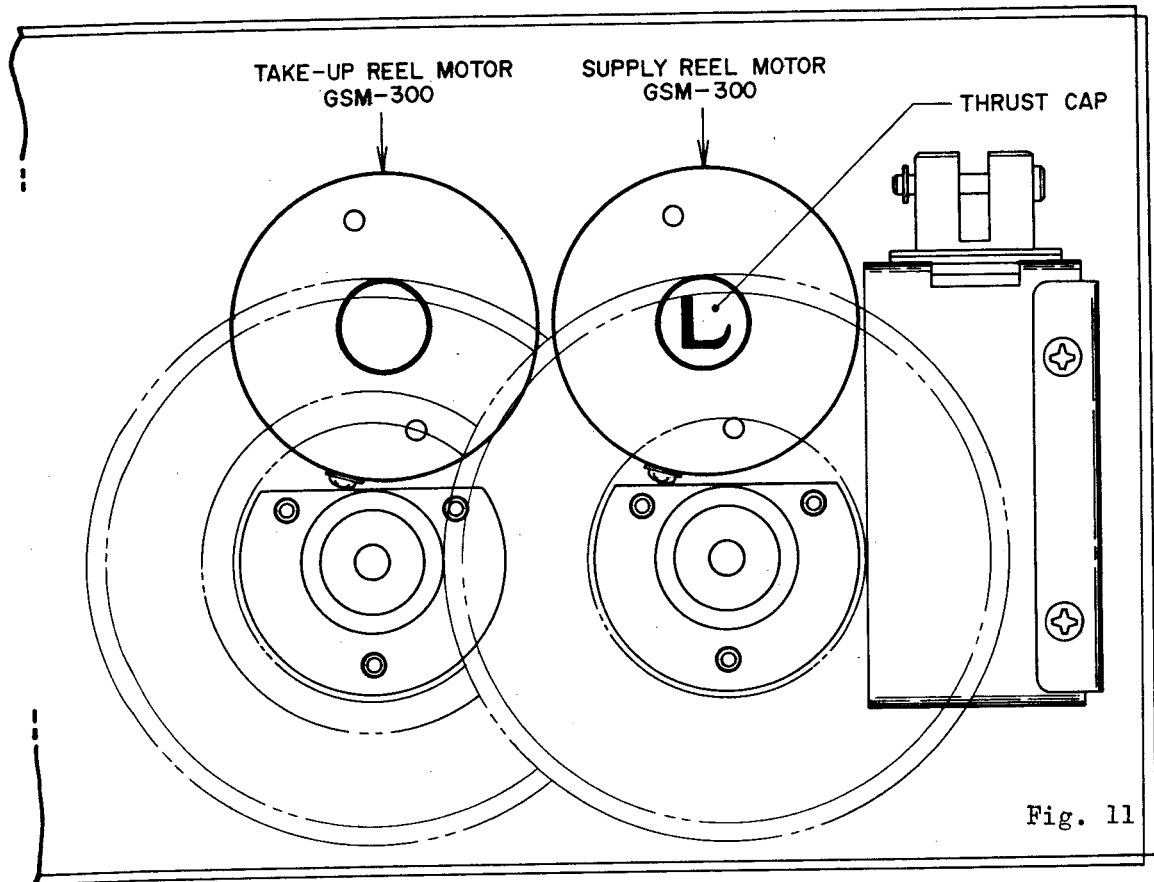

Fig. 11
8) Reel Motor (GSM-300) Replacement (Refer to Fig. 11)